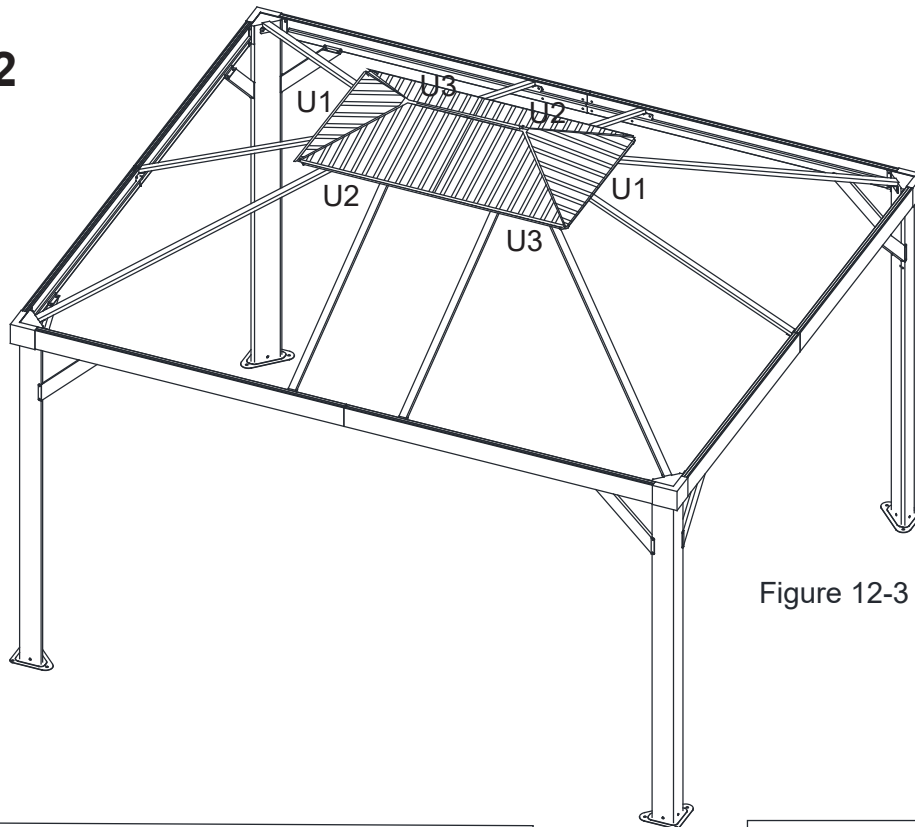

Figure 12-3
12.3: Repeat for opposite sides. Tighten all Bolts. See Figure 12-3.